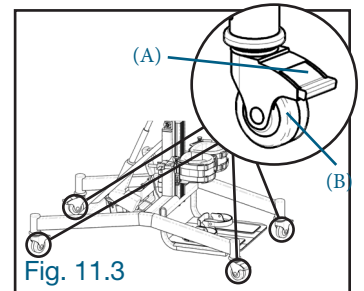

Fig. 11.3
11.3 WHEEL LOCKING (fig. 11.3)